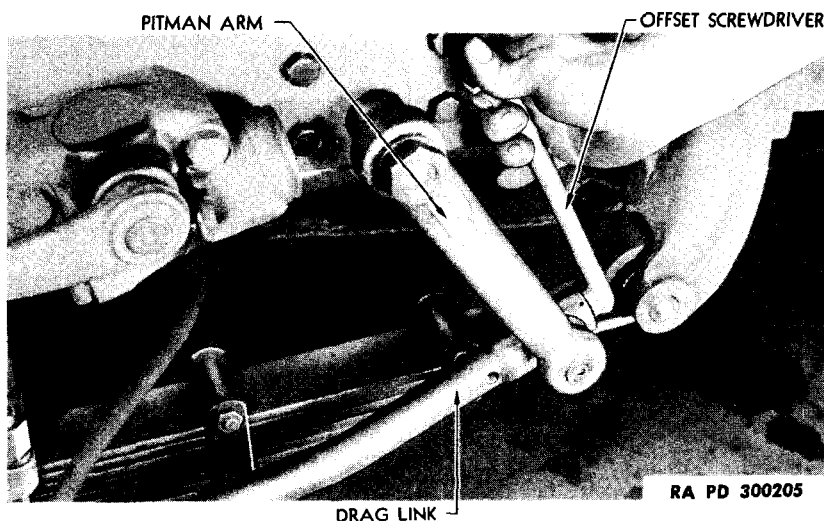

Figure 118—Adjusting Steering Drag Link
b. **Adjustment Procedure.** Remove cotter pin. Screw adjusting plug into drag link with offset screwdriver (fig. 118). Turn plug inward until it is tight against ball. Be sure bearing seats are well lubricated. Back off adjusting plug $\frac{1}{2}$ to 1 turn and test action of ball in bearing seat by moving drag link by hand. Drag link adjustment must be tight enough to prevent end play, and yet loose enough to allow free movement. Insert new cotter pin to lock adjustment.
c. **Remove Pitman Arm.** Remove cotter pin from pitman arm end of drag link. Use an offset screwdriver and loosen adjusting plug in end of drag link (fig. 118). Withdraw drag link from pitman arm